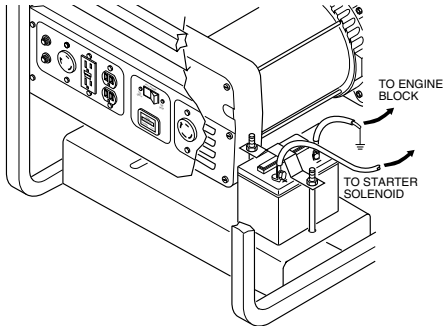

Figure 12 - Connecting Positive and Negative Cables to Battery (Model MGH7000C Shown)
2. Locate the red, positive (+) battery cable from starter solenoid. Connect it to the positive (+) battery terminal (see Figures 12 and 13, page 9).
3. Locate the black, negative (-) battery cable attached to engine block. Connect it to the negative (-) battery terminal (see Figures 12 and 13, page 9).
Grounding generator helps prevent electric shock from a ground fault condition. Locate ground lug on end of generator housing (see Figure 12). Attach a #10 stranded-copper ground wire to ground lug. Drive grounding point into ground. Grounding point can be a stake, grounding rod, or pipe. Grounding point should be copper or brass. Attach